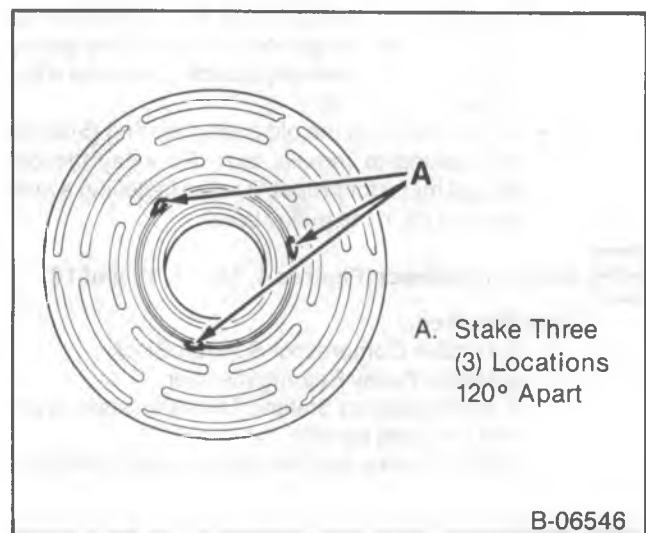
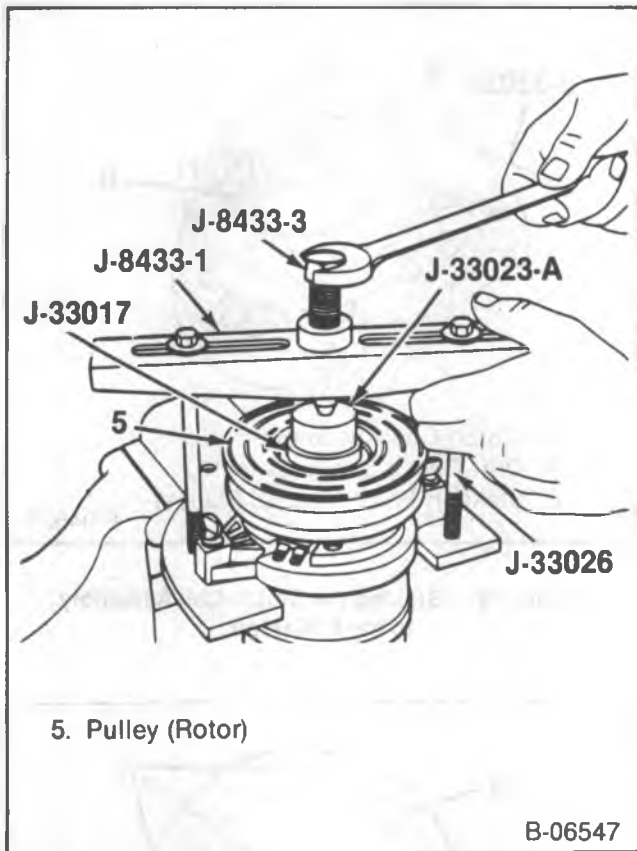

Figure 15 — Staking Locations
Figure 16 — Installing the Pulley Bearing Assembly
- Stake 3 places 120 degrees apart (figure 15).
- 3. Pulley (5) on the front head.
- Position J 33017 and J 33023-A over the inner race of the bearing (figure 16).
- Position J 8433-1 on J 33023-A and assemble the through bolts and washers through the pulley bar slots and thread them into J 33026 (figure 16).
- Tighten the center screw in J 8433-1 to force the pulley and bearing assembly onto the compressor front head (11) (figure 16).